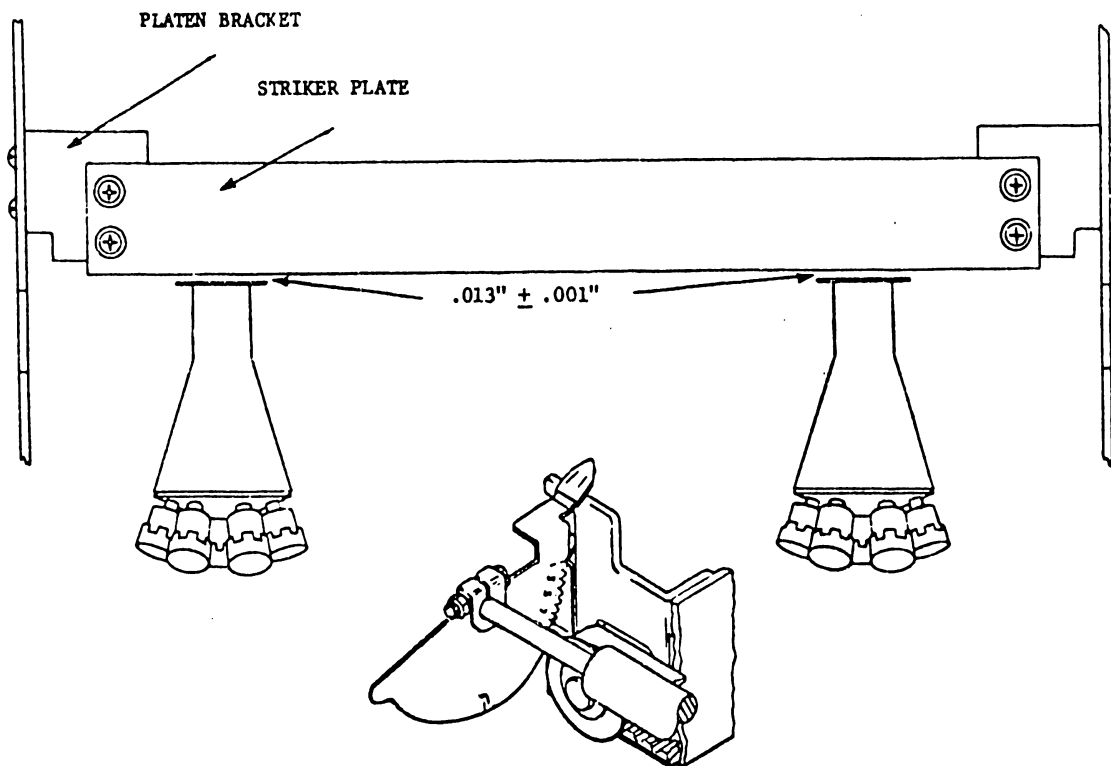

FIGURE 5-5 STRIKER BAR ADJUSTMENT
5.3.3 Striker Plate and Platen Brackets (Figure 5-5)